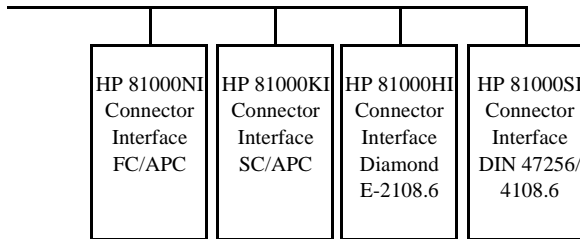

Figure B-3
- 2 Connect your cable (see Figure B-3).